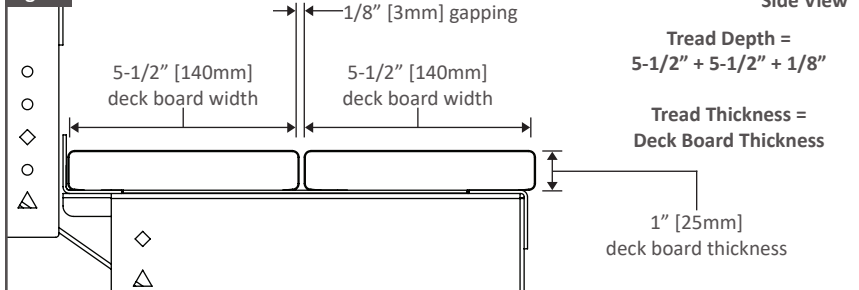

Fig. 94
6. Input determined tread Depth (11.125) into the stair calculator “Rise and Tread: Tread Depth” section. As shown in Fig. 94.